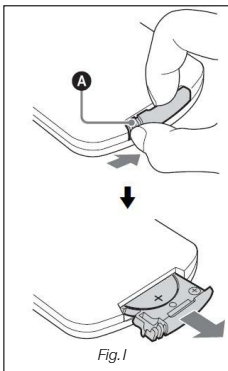

Fig.1
Turn the water tank over and place it back into its designated space on the Mist Generator (16) (Fig.1) with Alva Air name facing the front of the fan.
(Figure 1)